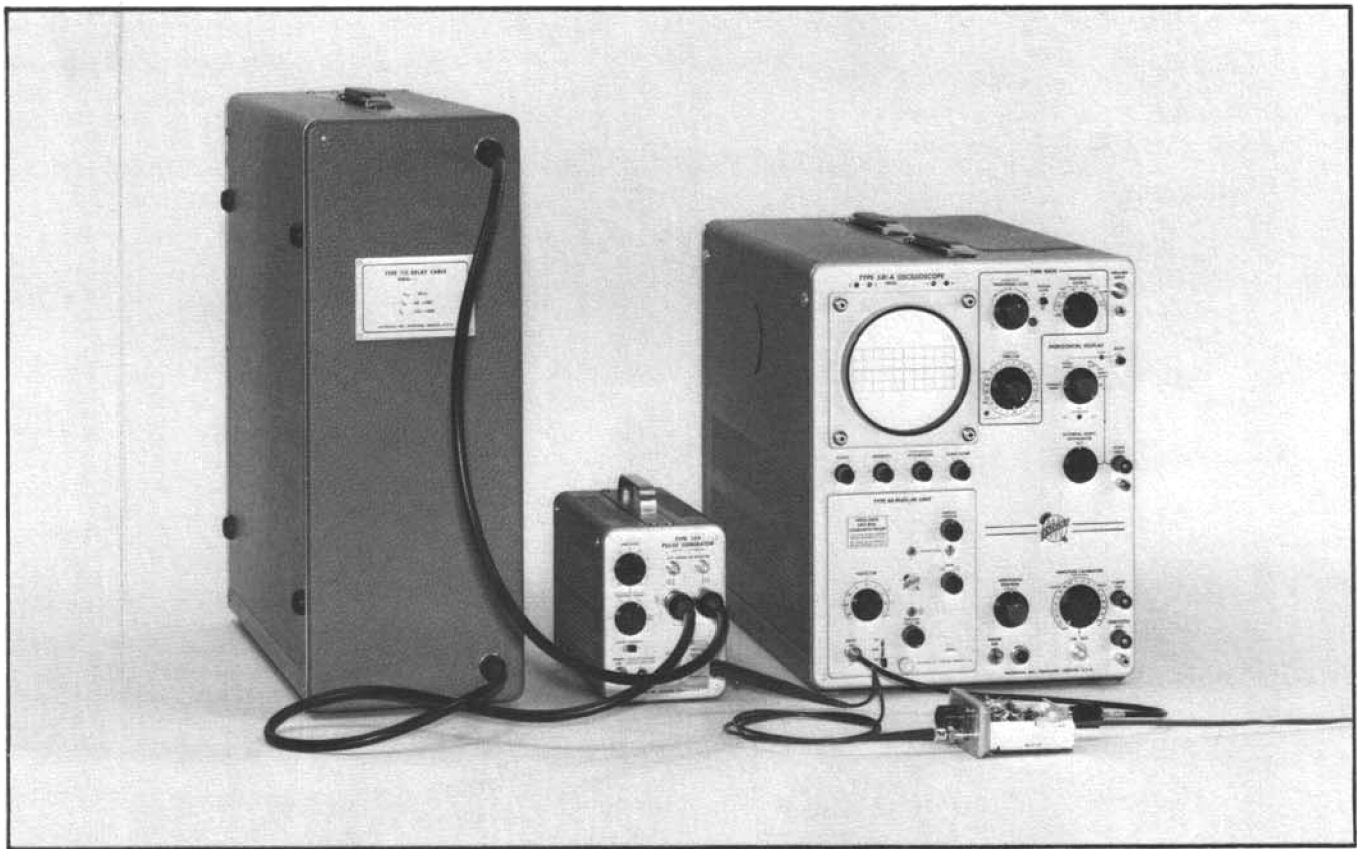

Fig. 5-5. Test setup for high-frequency compensation adjustments.
c. Connect the P6022 probe from the Type 134 to the test fixture (see Fig. 5-5).